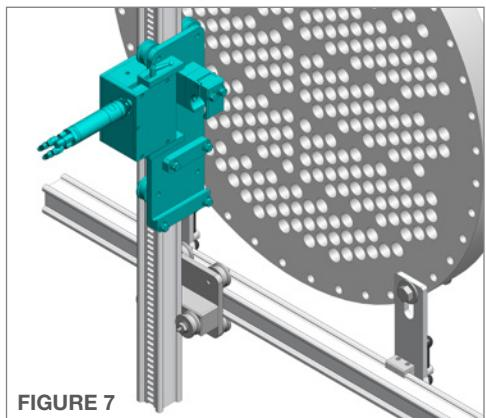

FIGURE 7
7. Loosen the **Quick Adjust Handle** and pull the gearbox away from the carriage plate. This will allow the **Vertical Drive Carriage** to slide onto the rail without pneumatic power to rotate the drive. Center the carriage on the vertical rail and push the gearbox back toward the carriage plate. This will engage the gear into the rail slots. Verify the gear is engaging the slots correctly and retighten the adjustable handle. (**Figure 7**)